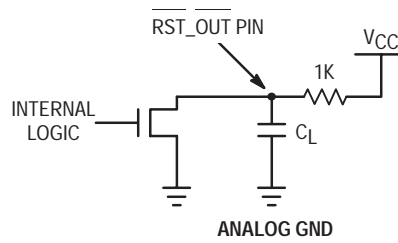

Figure 3. RST_OUT Test Circuit
- The $\overline{RST_OUT}$ pin is an open drain N-Channel output. Therefore an external pull-up resistor must be provided to pull up the $\overline{RST_OUT}$ pin when it goes into the high impedance state (after the MC88LV926 is phase-locked to the reference input with $\overline{RST_IN}$ held high or 1024 'Q' cycles after the $\overline{RST_IN}$ pin goes high when the part is locked). In the t_{PLZ} and t_{PZL} specifications, a 1K Ω resistor is used as a pull-up as shown in Figure 3.